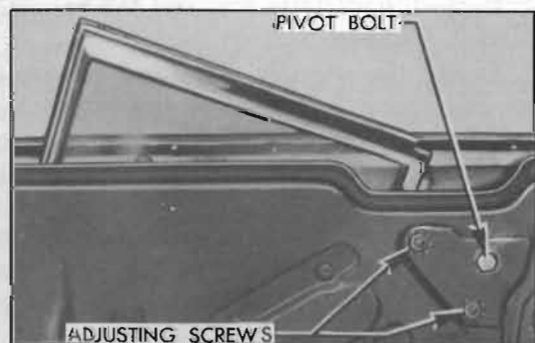

Figure 13-35—Rear Quarter Window Adjustments
2. Loosen the pivot bolt and two adjusting stud lock nuts. See figure 13-35.
4. Remove the quarter window pivot bolt located in upper front corner of rear quarter inner panel. See figure 13-35.